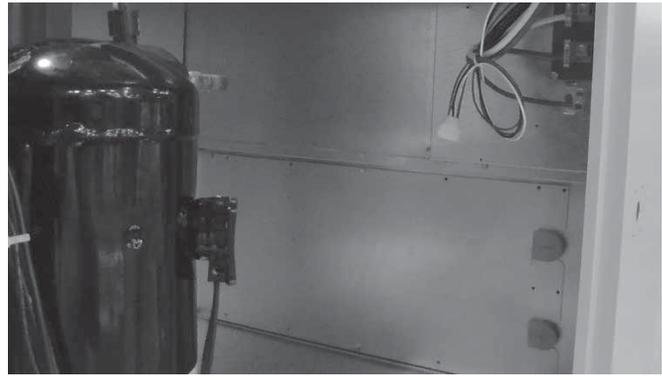

Figure 4. Electric Heat Access Plate
3. Remove electric heat access plate. Retain all screws and foam wire guards for later use. See Figure 4.